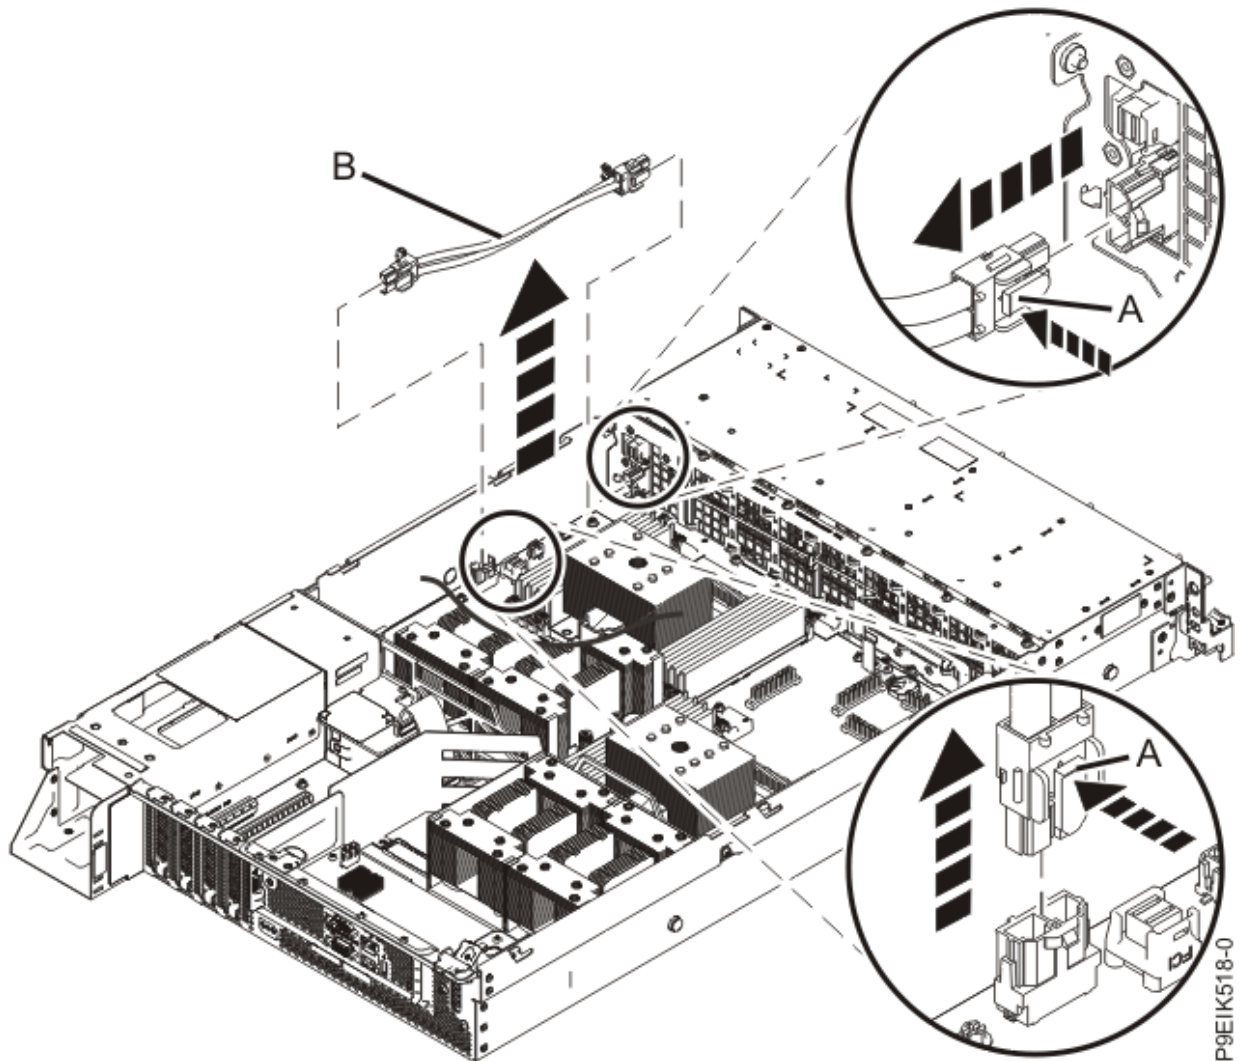

Figure 22. Removing the fan power cable from the system
3. Grasp the connector end of the fan power cable that is connected to the power riser. See **(A)** in Figure 22 on page 30.